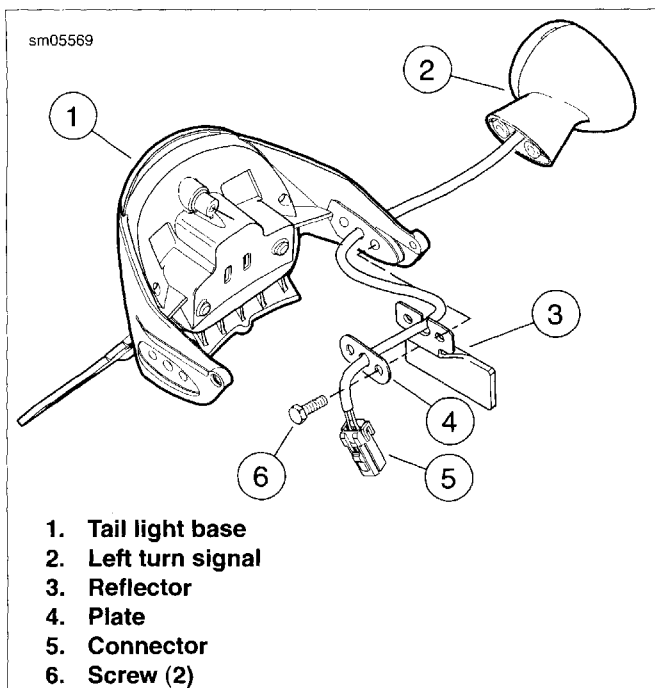

Figure 6-68. Turn Signal Housing Removal: XR 1200
2. See Figure 6-68. Remove screws ((6), plate (4), reflector (3) and turn signal housing (2).
- See Figure 6-68. Install turn signal housing (2), reflector (3), and plate (4) with screws (6). Tighten screws to 30-40 in-lbs (3.4-4.5 Nm).